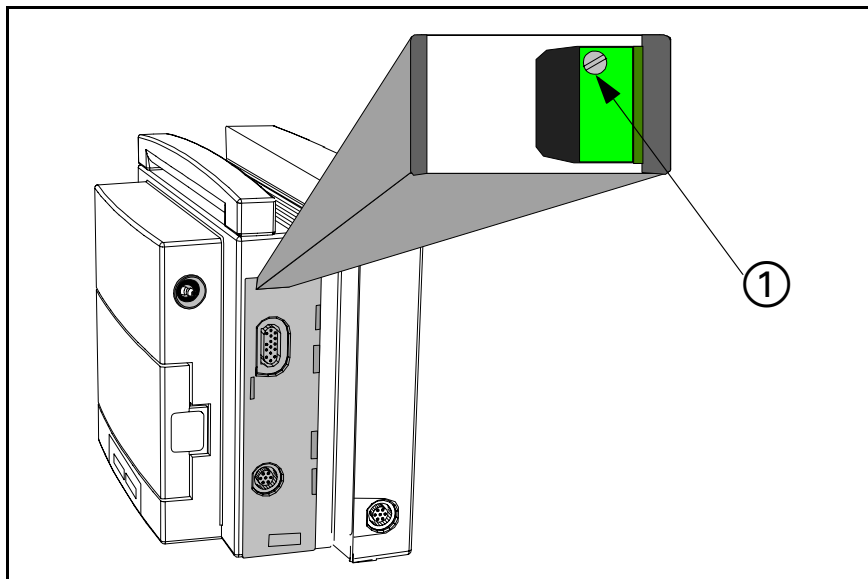

Figure 4-6 Calibration Potentiometer
10. Adjust calibration potentiometer (① in Figure 4-6 on page 59) through access port in left side of monitor, until monitor (lower right area of NBP field) and pressure indicator readings match ± 1 mmHg.